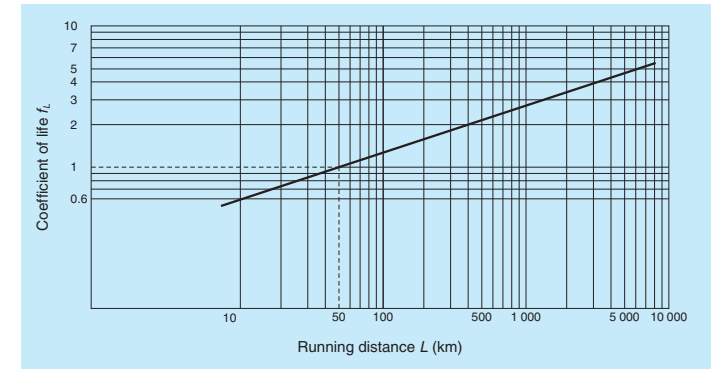
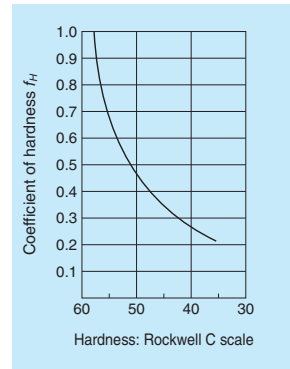

Fig. 4 Relationship between life factor and running distance
Fig. 5 Hardness factor
- P: Radial load (N)
- f_L: Life factor (Refer to Fig. 4)
This formula is used provided that the shaft hardness is HRC58 or higher. Rated life is shorter if the shaft is softer. In this case, find the hardness factor *f_H* from Fig. 5, and multiply the value.
From Fig. 4 and Fig. 5,